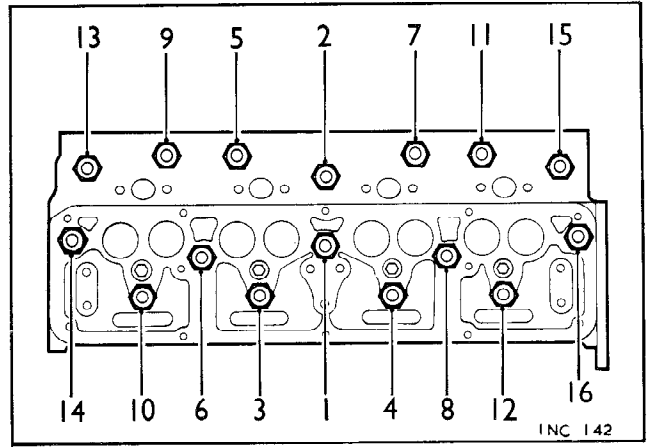
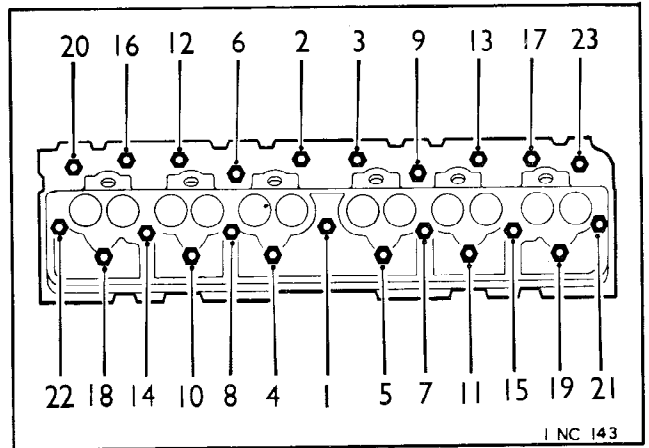

Fig. 1
Fig. 2
- d. Tighten the cylinder head nuts in the order shown in Fig. 1 or Fig. 2.
- g. Run the engine until it reaches its normal working temperature, then run it for a further half-hour. Stop the engine and slacken, then tighten, to the correct torque, each cylinder head nut one flat in the sequence shown in Fig. 1 or Fig. 2. ●